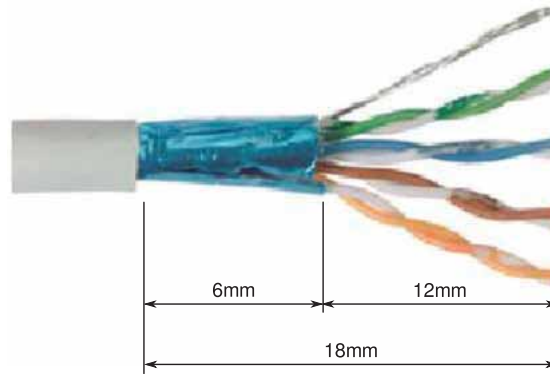

Figure 4.10. Preparing the CPE Cable
2. Refer to Figure 4.10, “Preparing the CPE Cable”.